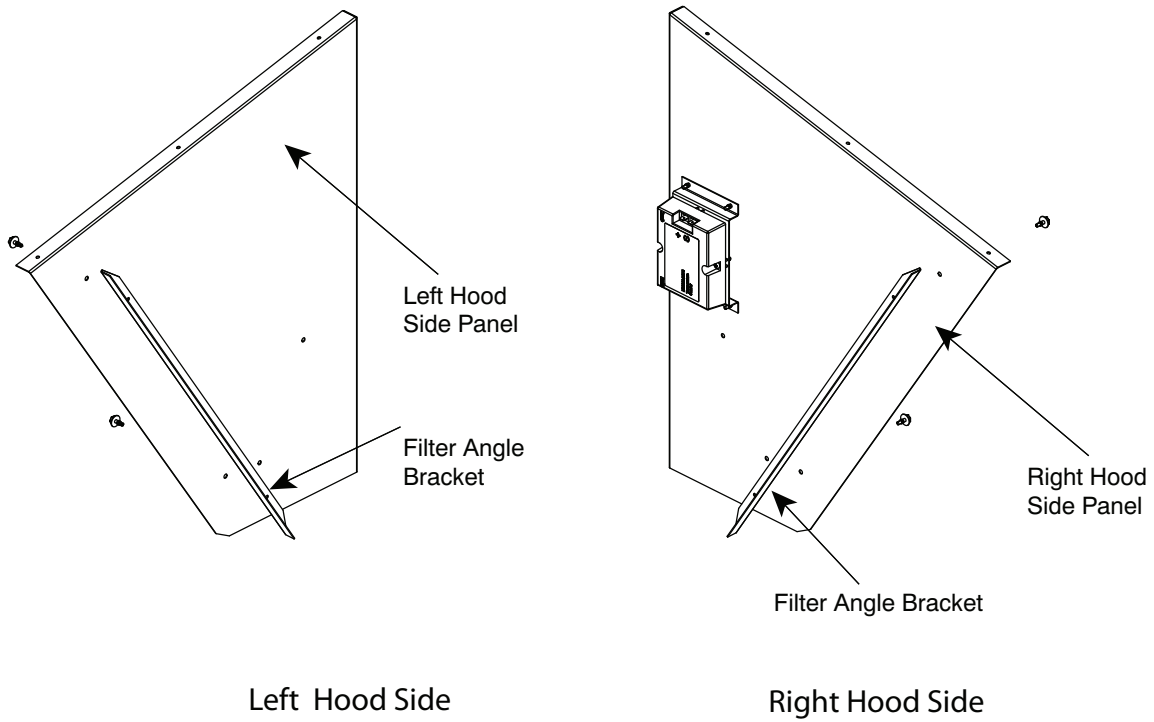

Fig. 32 - Filter Angle Bracket Installation
7. Install the 2 angle filter brackets to the right and left hood side panels respectively with the #10 screws provided. See Fig. 32.